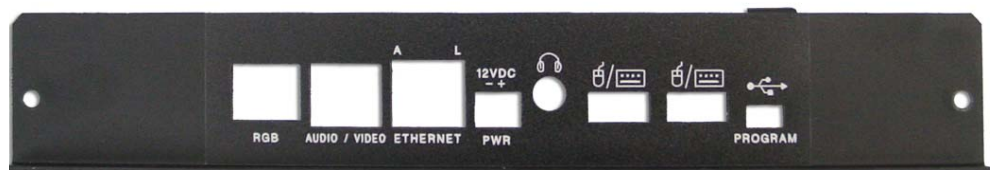

FIG. 24 NXD I/O plate with upgraded RGB overlay
4. Reinstall the upgraded RGB I/O connector plate by aligning all connectors to their respective locations (FIG. 24).